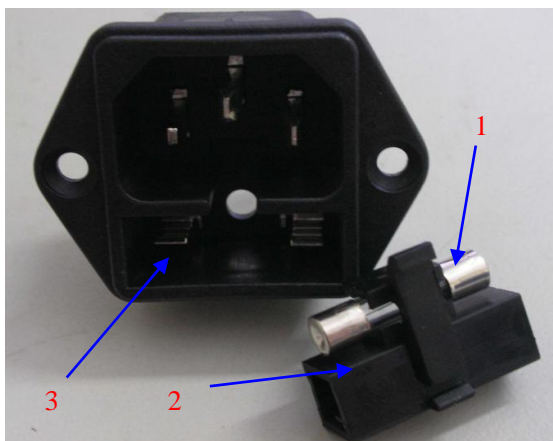

Fig6
- Insert the fuse(1) into the fuse socket (2)as it showed in the fig6 and insert the whole fuse socket into the socket(3) as fig 6.